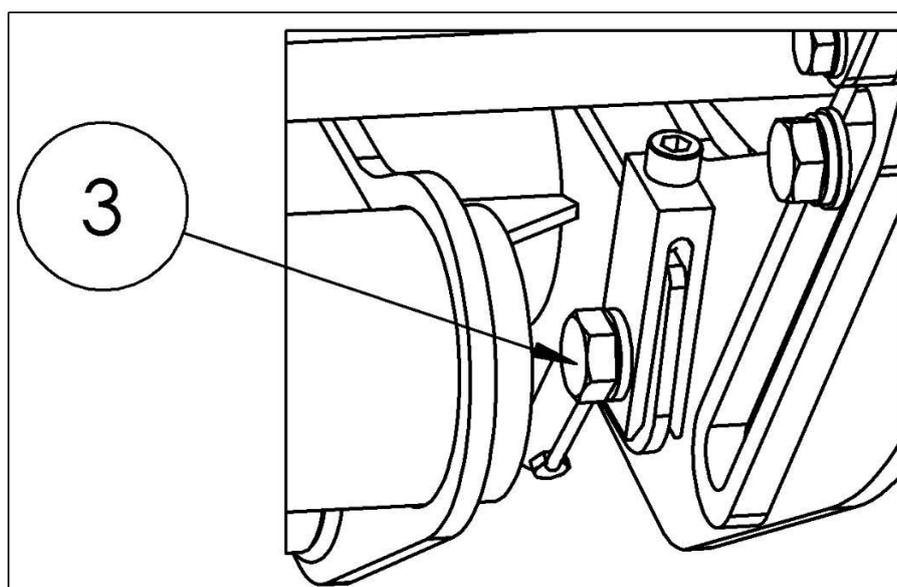

Figure 74
- When finished adjusting, tighten the bolt (3) for securing the torsion bar to 115 Nm (refer to torque table on page 65 and see Fig. 74).